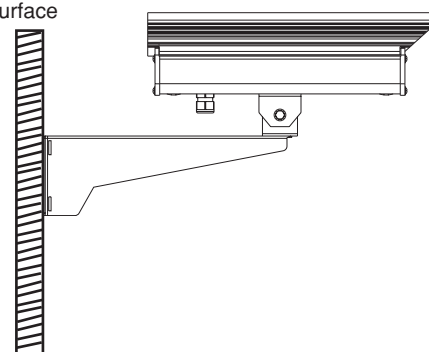

Figure 2
3. Mount the housing to the top of the swivel head and position to desired viewing location. Secure in place (Figure 2).